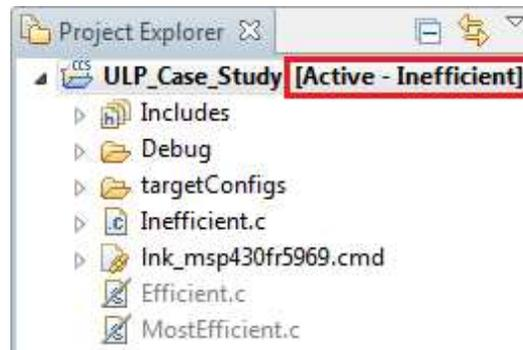
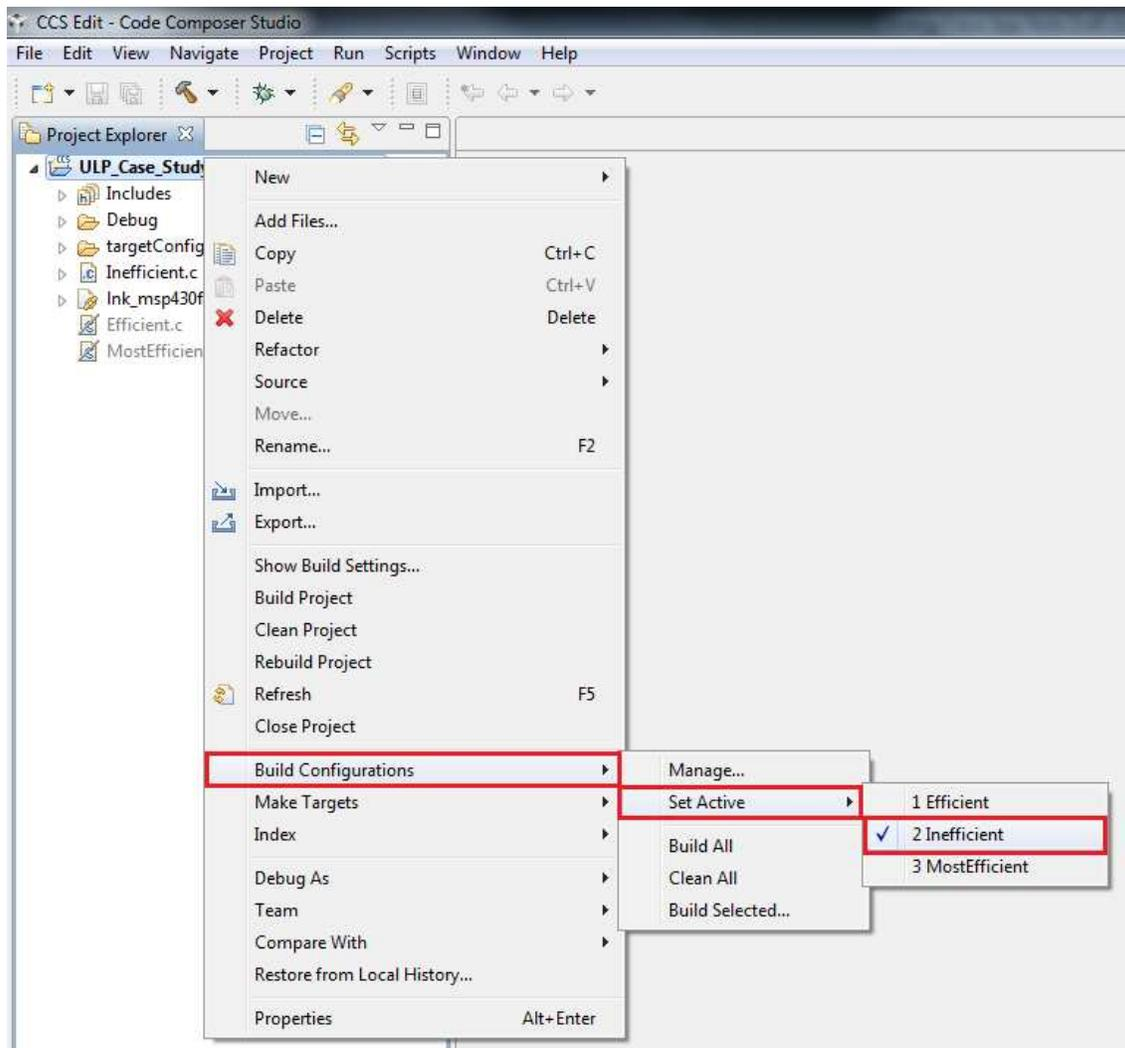

Figure 4. Active Debug Configuration: Inefficient
Figure 5. Set Active Debug Configuration
3. Set as active project by left-clicking on the project name. The active build configuration should be *Inefficient* (see Figure 4). If not, right click on the project name in the *Project Explorer*, then click *Build Configurations* → *Set Active* → *Inefficient* (see Figure 5). The file *Inefficient.c* is the only .c file included in this build.
1. Change the active build configuration to *Efficient* (see Figure 5). *Efficient.c* is the only .c file included in this build.